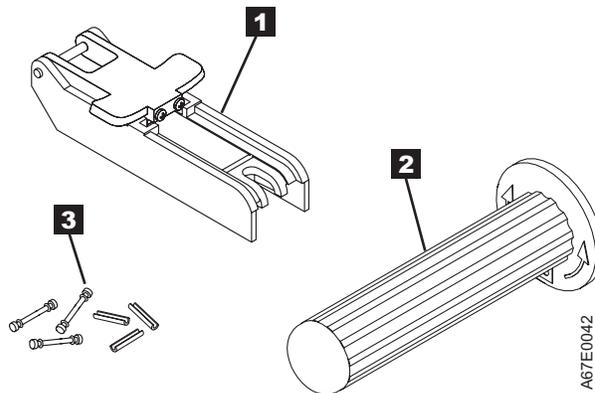

Figure 11. Leader Pin Reattachment Kit
- **Leader pin attach tool** (see **1** in Figure 11). A plastic brace that holds the cartridge door open.
- **Cartridge manual rewind tool** (see **2** in Figure 11). A device that fits into the cartridge's hub and lets you wind the tape into and out of the cartridge.
- **Pin supplies** (see **3** in Figure 11). Leader pins and C-clips.